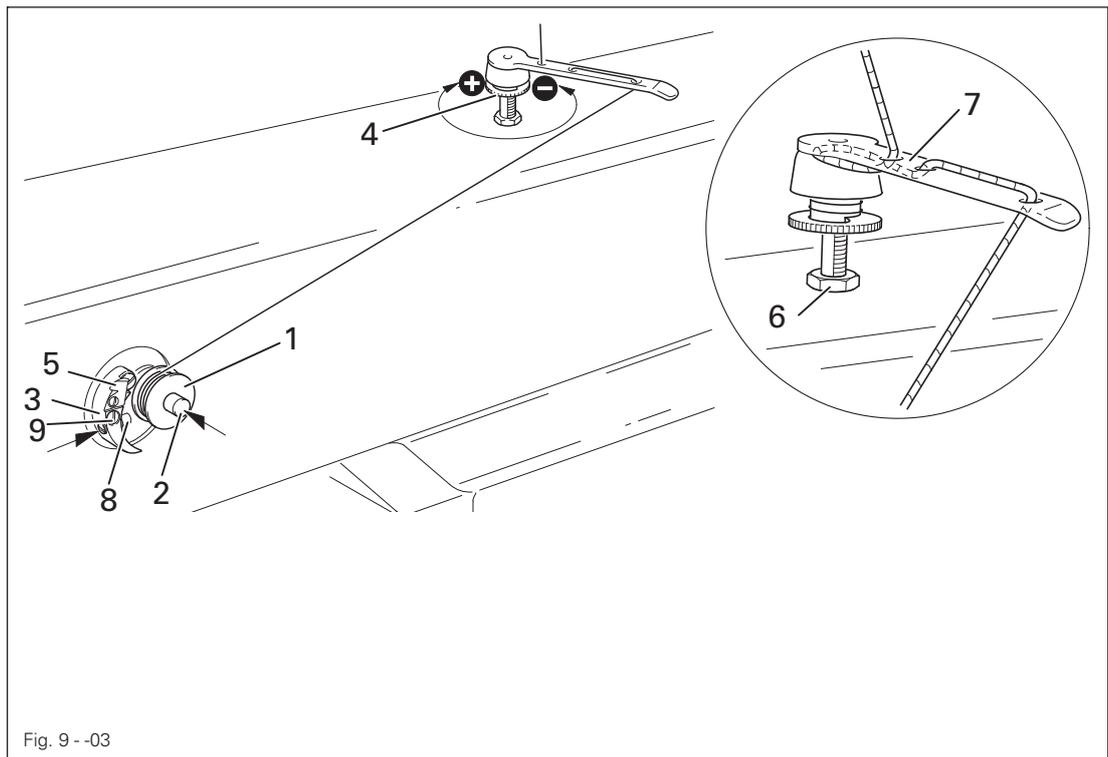

Fig. 9 - 03
- Thread in the thread as shown in Fig. 9 - 03 and wind it round the bobbin 1 a few times in a clockwise direction.